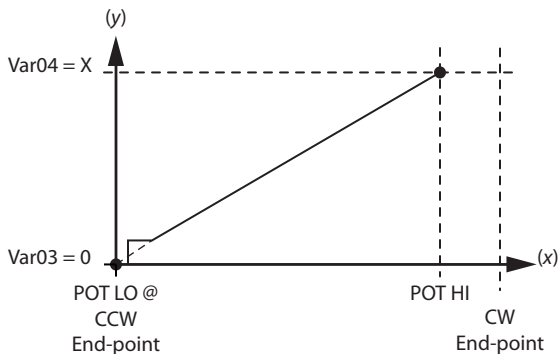

Figure 3: Pot Position for Self-Compensating Motor drives
If, as you slowly turn the pot the motor remains stopped until the pot passes a certain point, after which the motor jumps to a minimum speed; and maintains that speed until the pot passes a second point, after which the motor speed increases proportionally as you turn the pot, **then** that usually means the motor drive Does compensate for low-end dead band. Figure 3 is a pot position (x) vs. motor speed (y) graph; notice the self compensating stair step in the lower-left of the plot.
- Or, set the pot to the maximum CCW position (*i.e., below the low-end dead band*). Set the value for Var03 (typically set to zero in this case). See example in Figure 3.